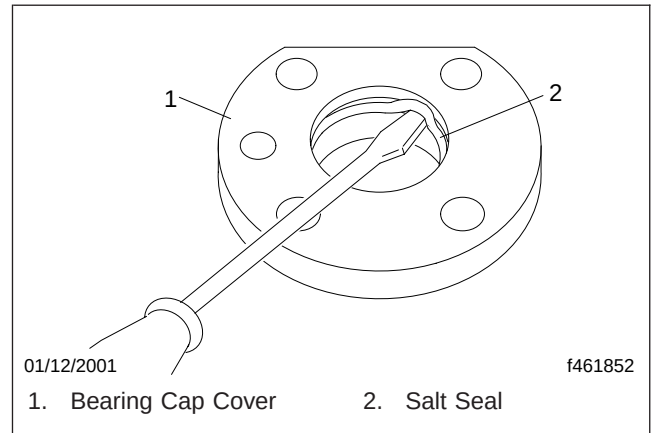

Fig. 1, Salt Seal Removal
7. Place the bearing cap cover on a clean work surface. Pry the salt seal out of the bearing cap cover, and discard the seal. See Fig. 1.